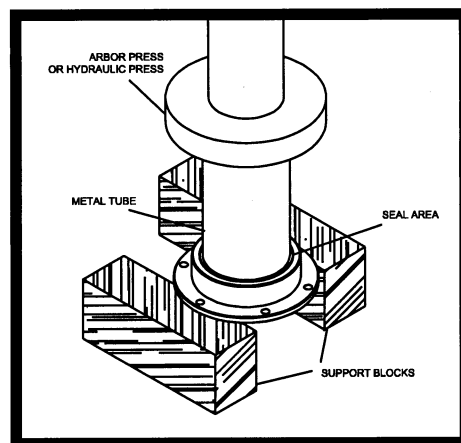

Figure 6.2.2 Removal of Seals from Seal Carrier
2. With a set of blocks or equivalent, support the seal carrier up so the seals can be pushed out (reference Figure 6.2.2).